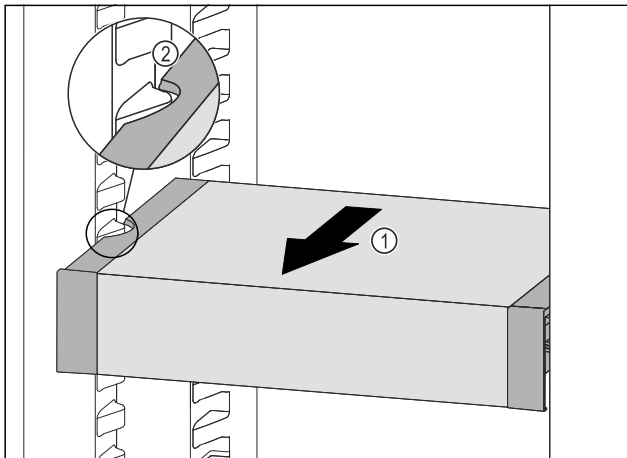

Fig. 152
- Pull VarioSafe forward Fig. 152 (1) until the recesses in the side of the VarioSafe are at the level of the support rib in the refrigerator compartment. Fig. 152 (2)